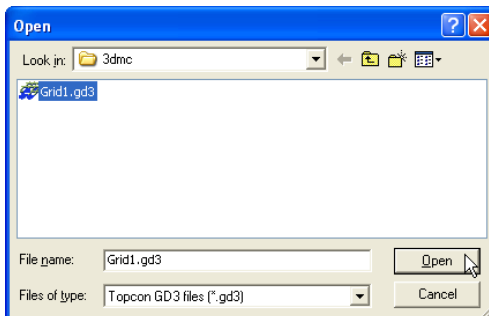

Figure 8-10. Open 3D Grid File
2. On the **Open** dialog box, navigate to the location of the desired file, select it, and click **Open** (Figure 8-10). The information from the selected file is added to the 3D Project file.